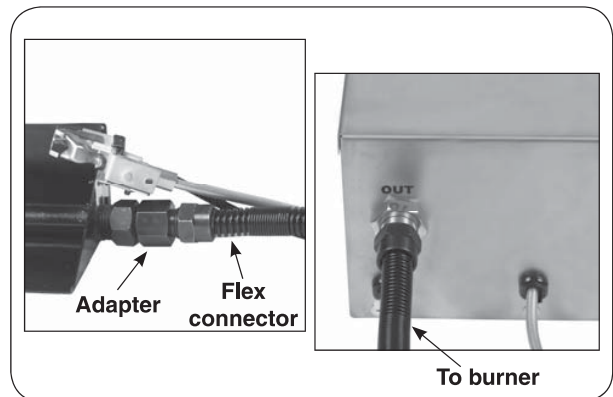

Fig. 6-3
2. Remove the adapter that is loosely connected to the flex connector. Attach the adapter to the fuel injector or air mixer on the burner using a pipe compound resistant to all gasses. Tighten securely. Then attach the open end of the flex connector to the adapter. Tighten securely (See Fig. 6-3).